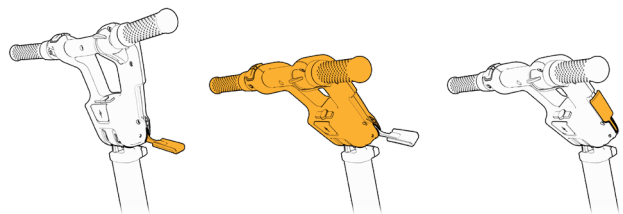

Figure 23 Driving console tilt adjustment
1. Hold the Driving Console in one hand and release the adjusting lever using the other hand (1)
2. Adjust the Driving Console angel so that you can reach and hold it comfortably with a clear view of the display area (2)
3. Tighten the adjustment lever once you're done (3). (see Figure 23).